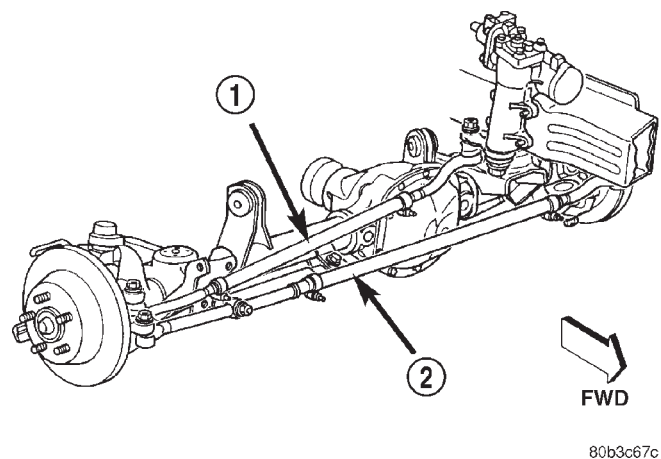

Fig. 2 Steering Linkage
- (1) Apply parking brakes.
- (2) Start the engine and turn wheels both ways before straightening the steering wheel. Center and secure the steering wheel.
- (3) Loosen the tie rod adjustment sleeve clamp bolts (Fig. 2).
- (4) Turn the sleeve to obtain the preferred positive TOE-IN specification. Position the clamp bolts as shown (Fig. 2) for proper clearance.
- (5) Tighten the clamp bolts to 68 N-m (50 ft. lbs.).
- (2) Turn the adjustment sleeve to center the wheel.
- (3) Position the clamp bolts as shown (Fig. 2) for proper clearance.
- (4) Tighten the clamp bolts to 68 N·m (50 ft. lbs.).
- (5) Road test the vehicle to verify the wheel is centered.